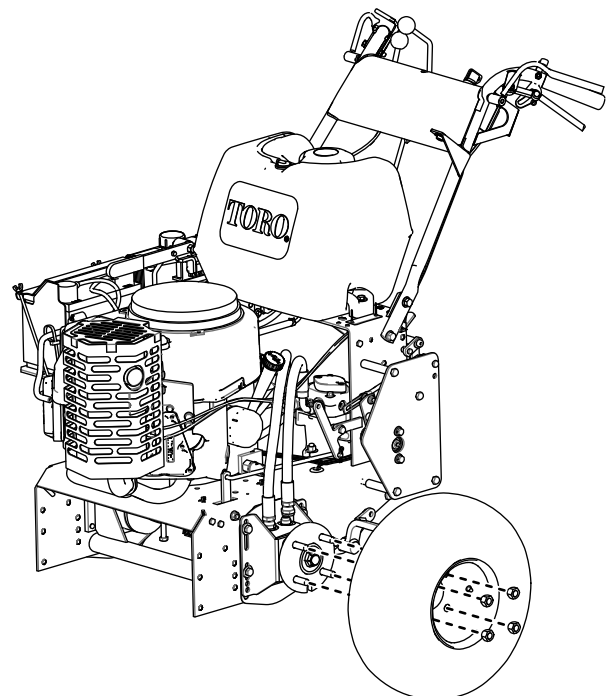

Figure 1
4. Remove the 4 lug nuts securing both wheels to the traction unit (Figure 1).
5. Remove the wheels (Figure 1).